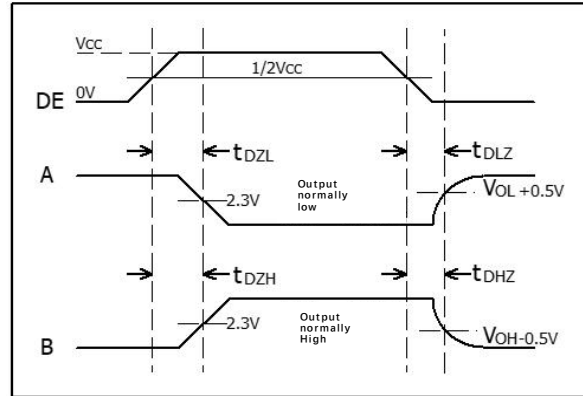

Figure 7 Driver Enable and Disable Times
- (7) Test circuit is shown in Figure 7